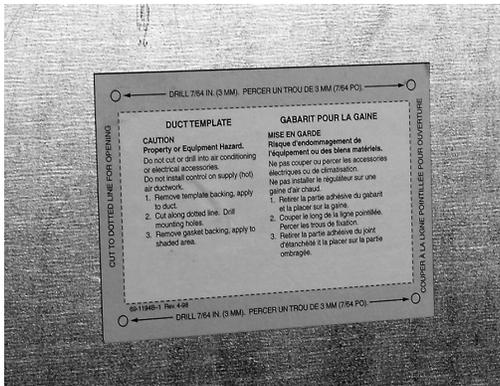

Fig. 36. Securing Mounting Template.
2. Remove the backing on the Humidistat Mounting Template and adhere the Humidistat mounting template in a horizontal position on the duct. See Fig. 36.